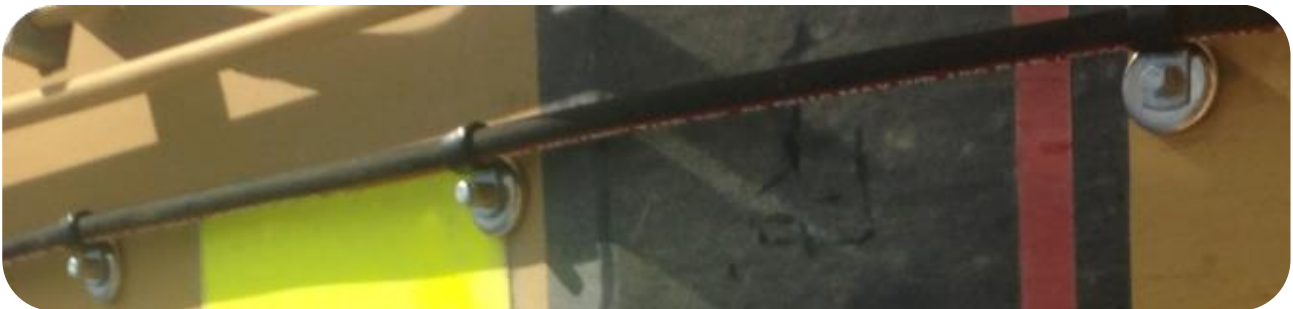

Figure 18 - Example of External Pilot Line Support
- ii. **1/4" NPT (M) x 3/4" JIC (M) Nipple available from Banlaw separately (Part No. 000510).**
- ii. Adequately supported using hose clamps (or similar) – refer Figure 18.